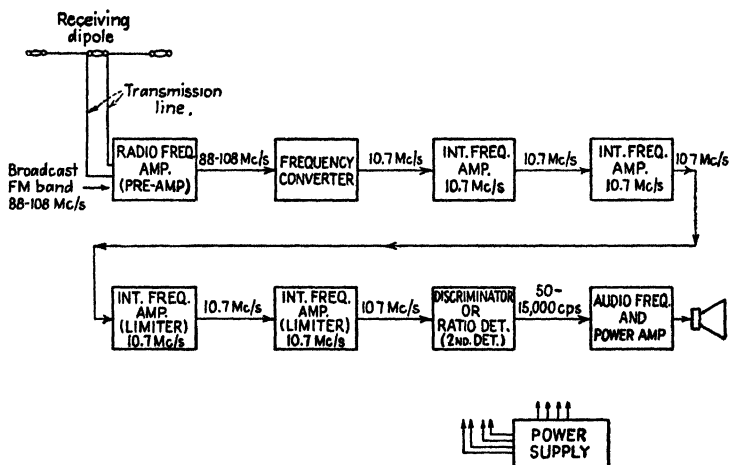

FIG. 3-17.
*Ans.* See Fig. 3-17.
A comparison of Figs. 3-17 and 3-21 illustrates the basic changes in the frequency-modulation receiver as compared with a typical amplitude-modulation type.